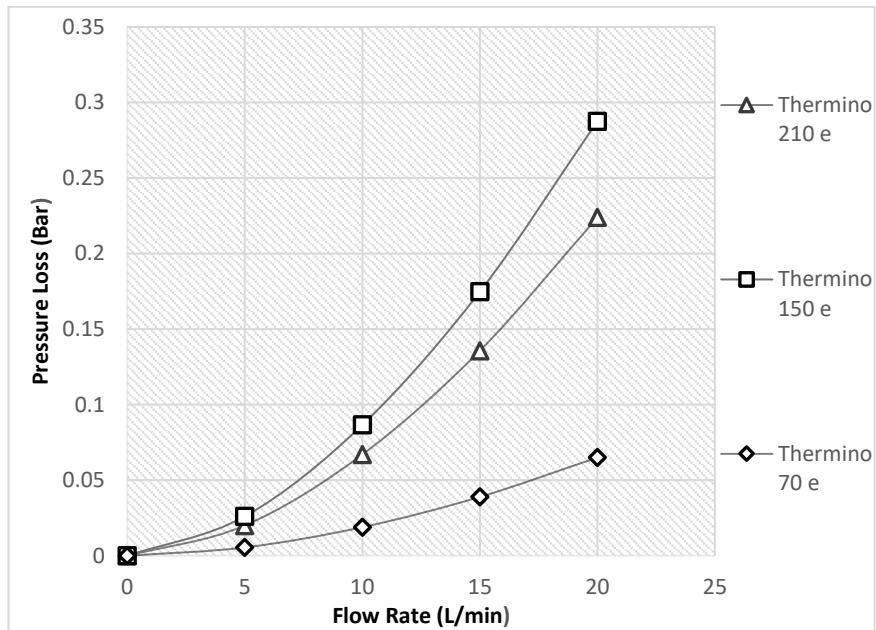
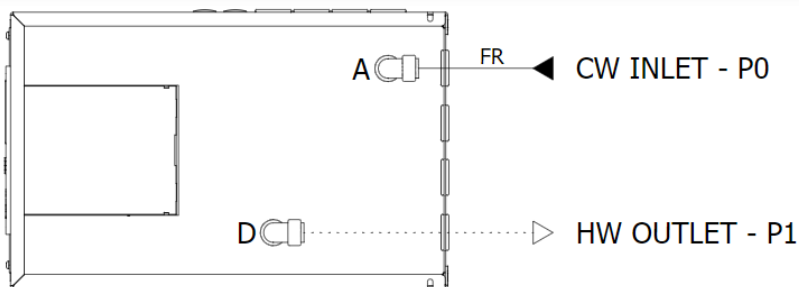

Figure 6.1: Thermino e Heat Battery pressure loss characteristics graph
Figure 6.2: Pressure loss at inlet & outlet of the Heat Battery
Pressure loss characteristics K v Values	Figure 6.1 (Section 2.6)
Pressure loss characteristics can be calculated using the graph below (Figure 6.1). The points that the pressure loss for the Heat Battery are displayed in (Figure 6.2)
**Note:-** Cold water inlet connects to port A; hot water outlet connects to port D (Figure 6.2).